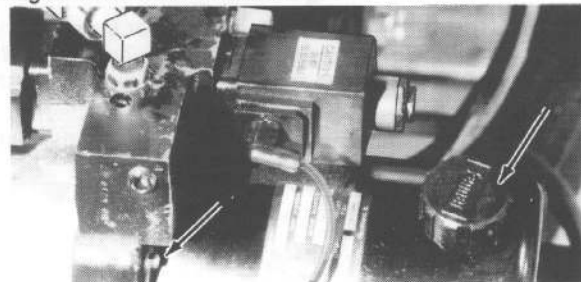

Figure 2-27
20. Inspect the O-ring seal for damage, replace if needed, lubricate the seal with fresh oil and re-install reservoir carefully to avoid damaging the O-ring. Tighten cap screws to 3-5 lb-ft. See Figure 2-27.
21. Position the Hydraulic control unit on the frame and install the two (2) mounting bolts. Torque mounting bolts to 23-25 lb-ft.